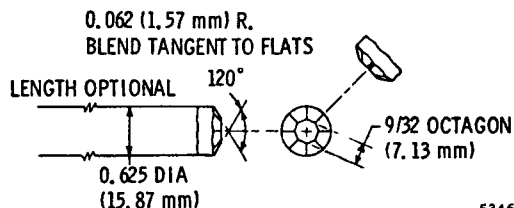

Fig. 6-29. Swaging tool for six-pinion, low-range pinion spindles
(8) Support the spindle and swage it securely at both ends with an octagon punch. The pinion must rotate freely after assembly. Refer to figure 6-29 for swaging tool information.
(9) Install the remaining five pinion assemblies in the same manner as described in (2) through (8), above.
(10) If chilled spindles were installed into the rebuilt carrier, and the carrier will not be installed into a transmission in the near future, apply a coating of oil around the spindle locations to prevent rust.